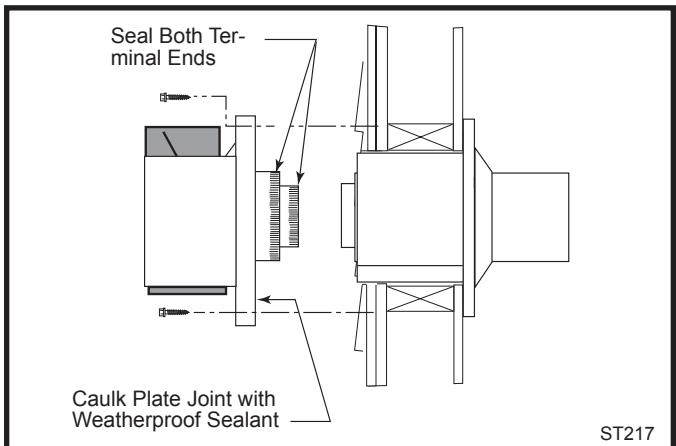

Fig. 28 Install the vent terminal.
10. For both MHSC and DuraVent Systems: Install the vent terminal. (Fig. 28) Apply high temperature sealant one inch from the ends of the inner and outer collars. Guide the inner and outer vent termination collars into the adjacent pipes. Double check that the vent pipes overlap the collars by 2". Fasten the termination to the wall with the screws provided, and caulk the joint with weatherproof sealant.